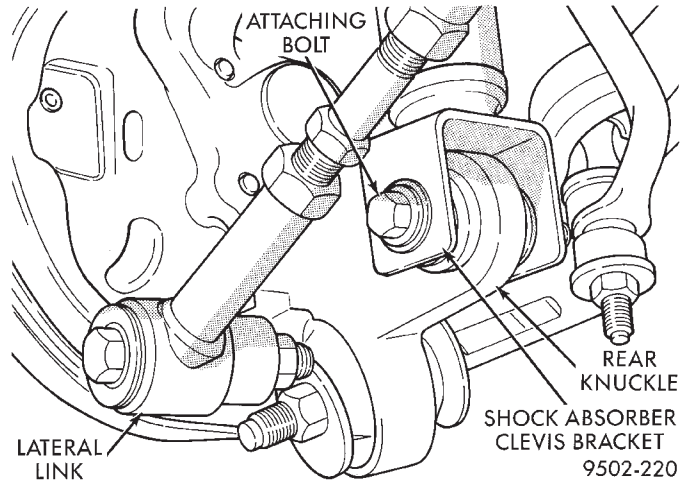

Fig. 21 Shock Absorber To Knuckle Attaching
- (1) Raise vehicle on jackstands or centered on a frame contact type hoist. See Hoisting in the Lubrication and Maintenance section of this manual, for the required lifting procedure to be used for this vehicle.
- (2) Remove both rear wheel and tire assemblies from the vehicle.
- (3) Remove the shock absorber clevis bracket to rear knuckle attaching bolt and nut (Fig. 21) on both sides of the vehicle.
(8) Install the shock absorber clevis brackets (Fig. 21) on the rear knuckles. Install the shock absorber to knuckle mounting bolts. Tighten the mounting bolts to a torque of 95 N-m (70 ft. lbs.).
(9) Install wheel and tire assembly on vehicle. Tighten the wheel mounting stud nuts in proper sequence until all nuts are torqued to half specification. Then repeat the tightening sequence to the full specified torque of 129 N-m (95 ft. lbs.).
(10) Lower vehicle to the ground.
(11) Check and reset if required, rear wheel Camber and Toe to preferred specifications.